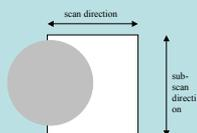

Fig. 3 Horizontal scan direction, vertical sub-scan direction
- e) Reposition the test object over the edge of the plate as indicated in figure 3 and repeat steps b and c